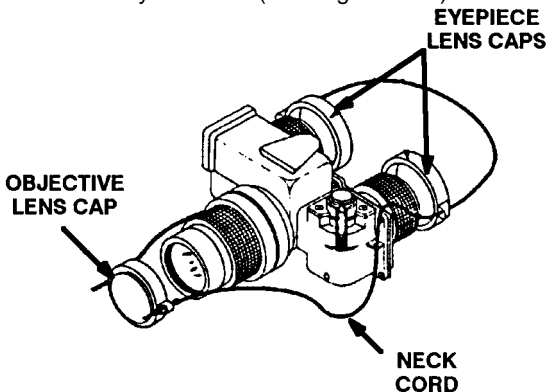

Figure 2-18. Neck Cord, Eyepiece and Objective Lens Caps.
e. Remove the objective lens cap and pull the neck cord so that the lens cap is pulled tight under the goggle. Place the neck cord around your neck. (See Figure 2-18)